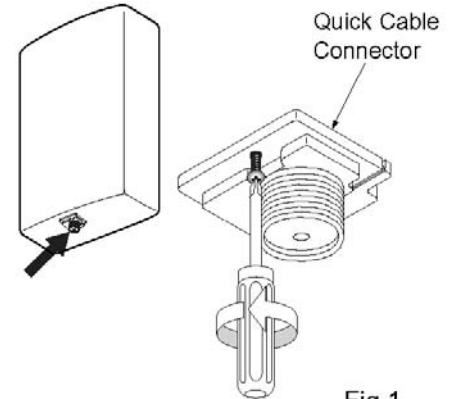

Fig.1
8. Remove a screw on the Quick Cable Connector. (Fig. 1)